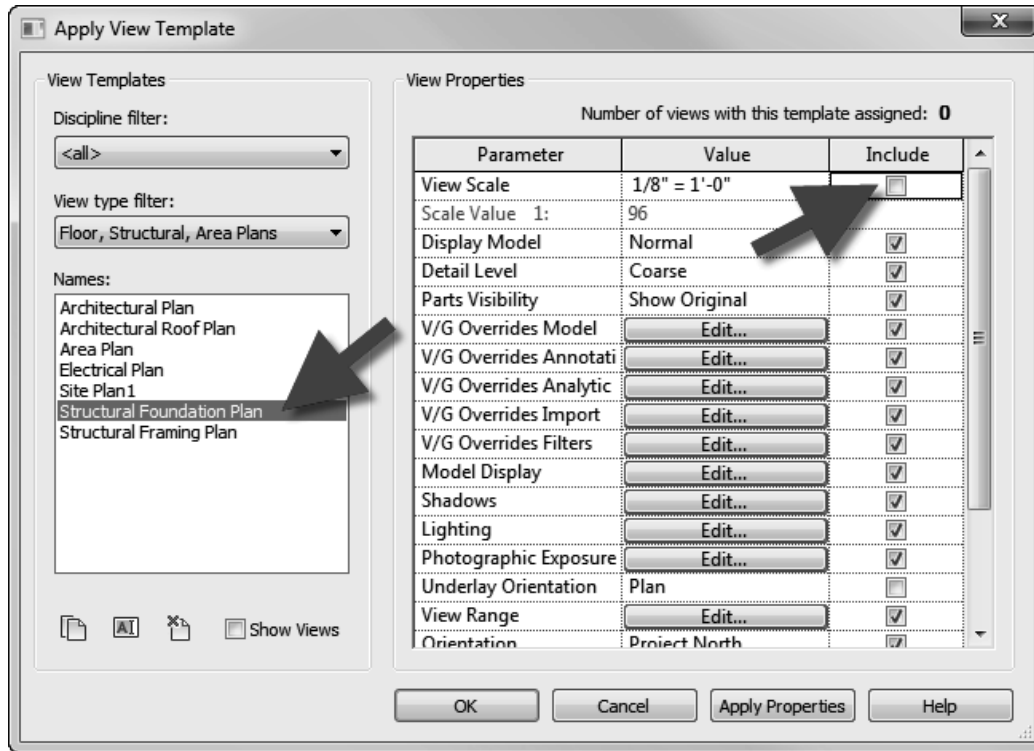

FIGURE 7-2.10 Apply View Template dialog – Structural Level 1
You are now in the *Apply View Template* dialog (Figure 7-2.10). Take a moment to observe all the settings it has stored and are about to be applied to the selected view, the one you right-clicked on.
28. **Uncheck** *View Scale* (Figure 7-2.10) and then click **OK** to apply the *View Template*..